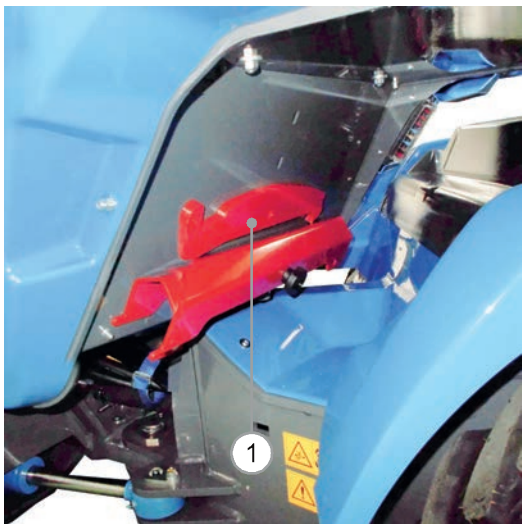

FIG. 17
- 3) Loosen the knob (FIG. 17 - Ref. 1) fixing the steering lock bracket and that of the locking of the lifting arm.